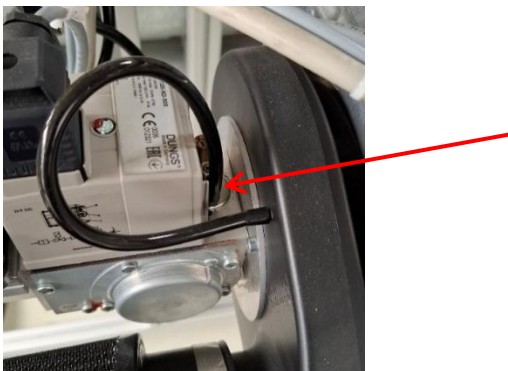
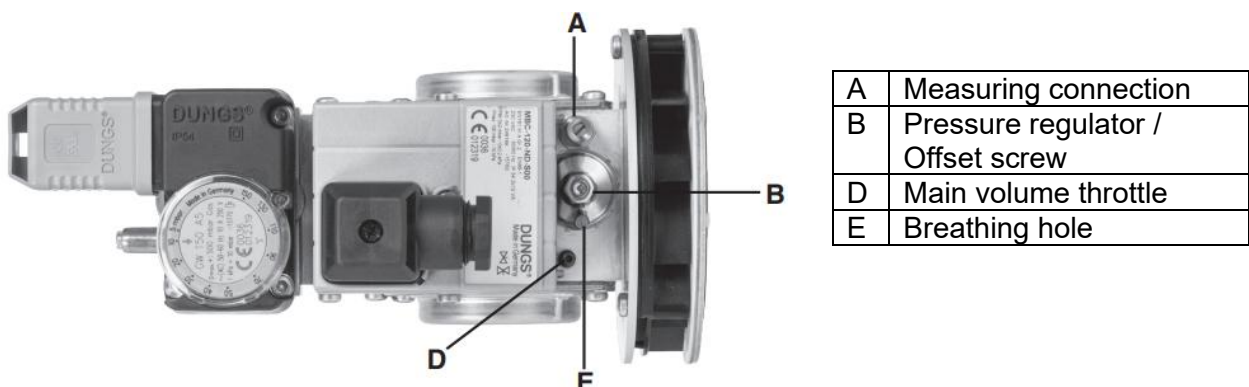

Figure 6: Compensation hose on the MBC
Figure 7: MBC Connections
The gas volume is set to the required flow on the MBC at the integrated main volume throttle D and via the offset B (see *Figure 7*). The procedure for setting the main volume throttle on the MBC is described in ***Fehler! Verweisquelle konnte nicht gefunden werden. Fehler! Verweisquelle konnte nicht gefunden werden.*** and *6 Manufacturer settings*. Further information can be found in the MBC documentation.
In the standard version of the HeatEngine, the MBC acts as a constant pressure regulator. To compensate for influences such as a dirty air filter in the combustion air blower, a connection must be established between the MBC and the supply air collector. To do this, the MBC's vent (see *Figure 7*, vent E) must be connected to the blower pressure via a compensation hose. The attached hose can be seen in *Figure 6*. The maximum gas volume is adjusted to the air volume.
5. Run the burner to MAX (high load) and check the flame pattern visually using the flame pattern catalogue (see *Appendix 4*). If necessary, adjust the gas quantity at the main volume throttle **D** of the MBC (see *Figure 7*). The blower output is set by the MPA parameter 246 *Maximum speed* determined. The gas quantity can be determined by a gas meter, a gas counter or a measuring orifice in the gas supply line